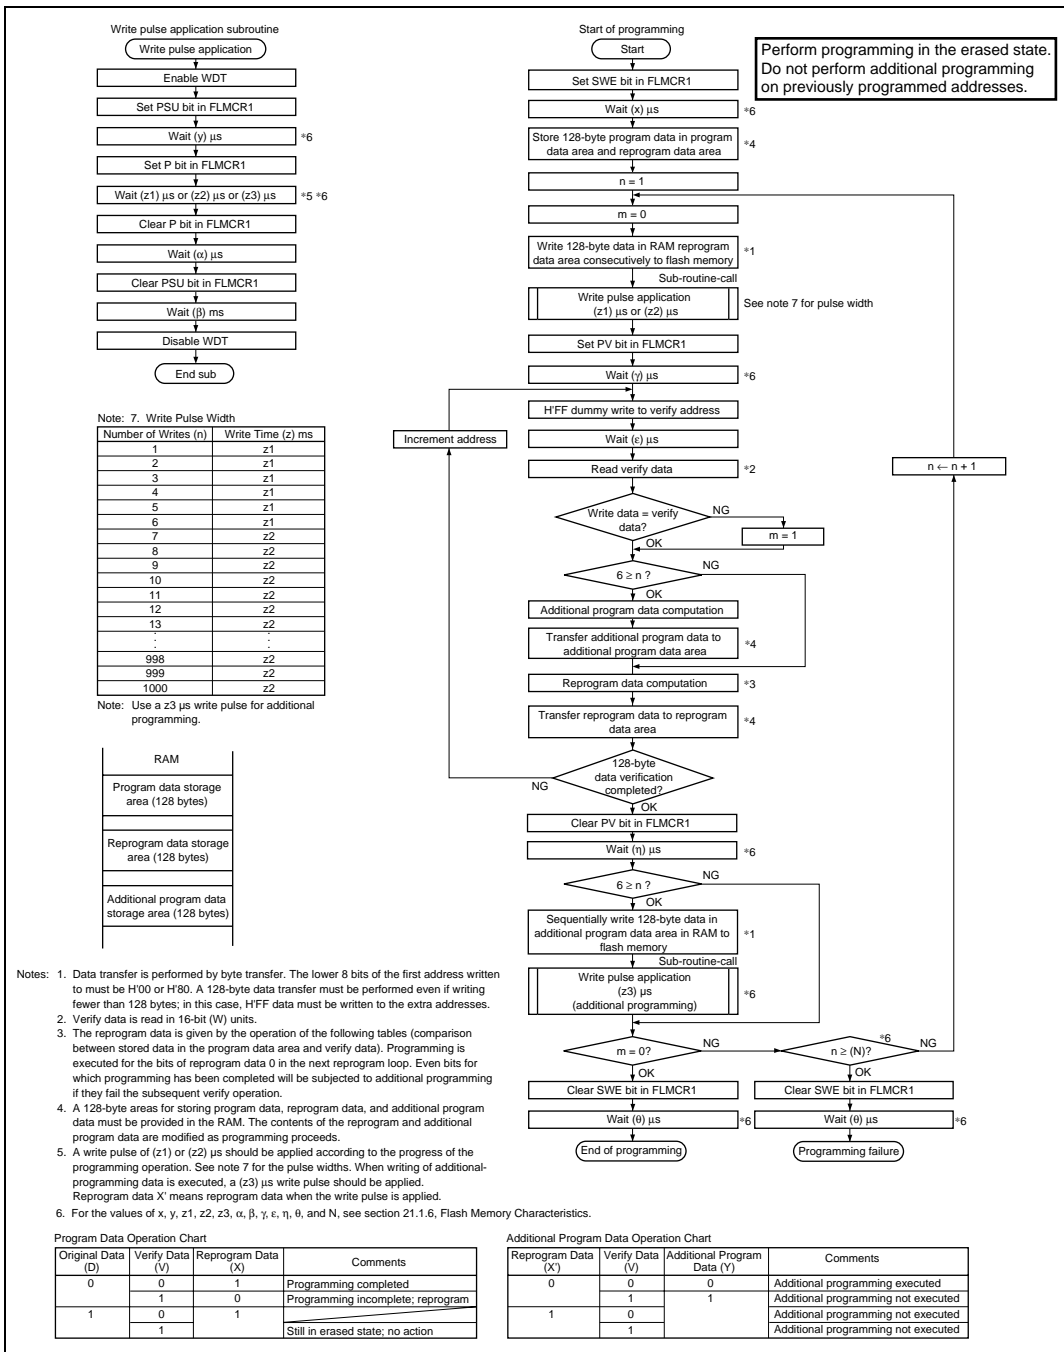

Figure 17.9 Program/Program-Verify Flowchart
When programming data or programs to the flash memory, the program/program-verify flowchart shown in figure 17.9 should be followed. Performing programming operations according to this flowchart will enable data or programs to be programmed to the flash memory without subjecting the chip to voltage stress or sacrificing program data reliability.
3. Prepare the following data storage areas in RAM: a 128-byte programming data area, a 128-byte reprogramming data area, and a 128-byte additional-programming data area. Perform reprogramming data computation and additional programming data computation according to figure 17.9.
5. The time during which the P bit is set to 1 is the programming time. Figure 17.9 shows the allowable programming times.
8. The maximum number of repetitions of the program/program-verify sequence to the same bit (N) must not be exceeded.